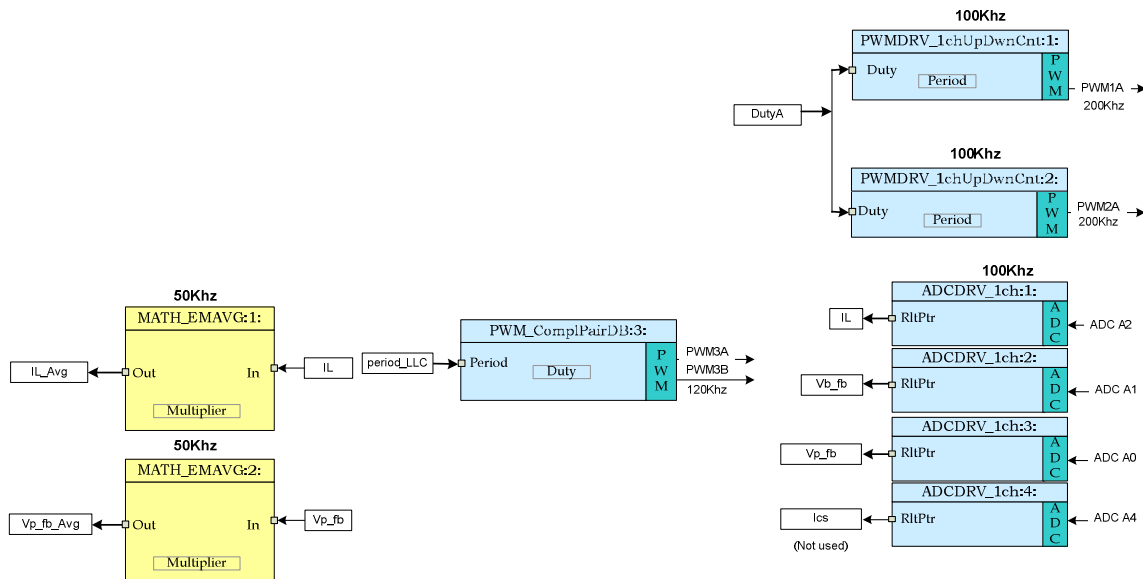

Figure 3.1.1. Build 1 software blocks
The PWM and ADC driver macro instantiations are executed inside the `_DPL_ISR`. Fig 3.1.1 shows the software blocks used in this build. The two PWM signals for the two BOOST switches are obtained from ePWM module 1 & 2. ePWM1A drives one of the BOOST switches while ePWM2A drives the other. The two PWM signals for the two LLC stage switches are obtained from ePWM module 3. ePWM3A drives the upper(high side) LLC switch while ePWM3B drives the low side switch.
The quantities that are sensed and fed back to the MCU include, (1) the panel voltage ( $V_{p\_fb}$ ), (2) the combined BOOST inductor current ( $I_L$ ), and (3) the boost DC bus voltage ( $V_{b\_fb}$ ). These quantities are read using the ADC driver module and are indicated in Fig 3.1.1. The fourth channel for the ADC driver macro is not used in this application. The ADC driver module converts the 12-bit ADC result to a 32bit Q24 value.